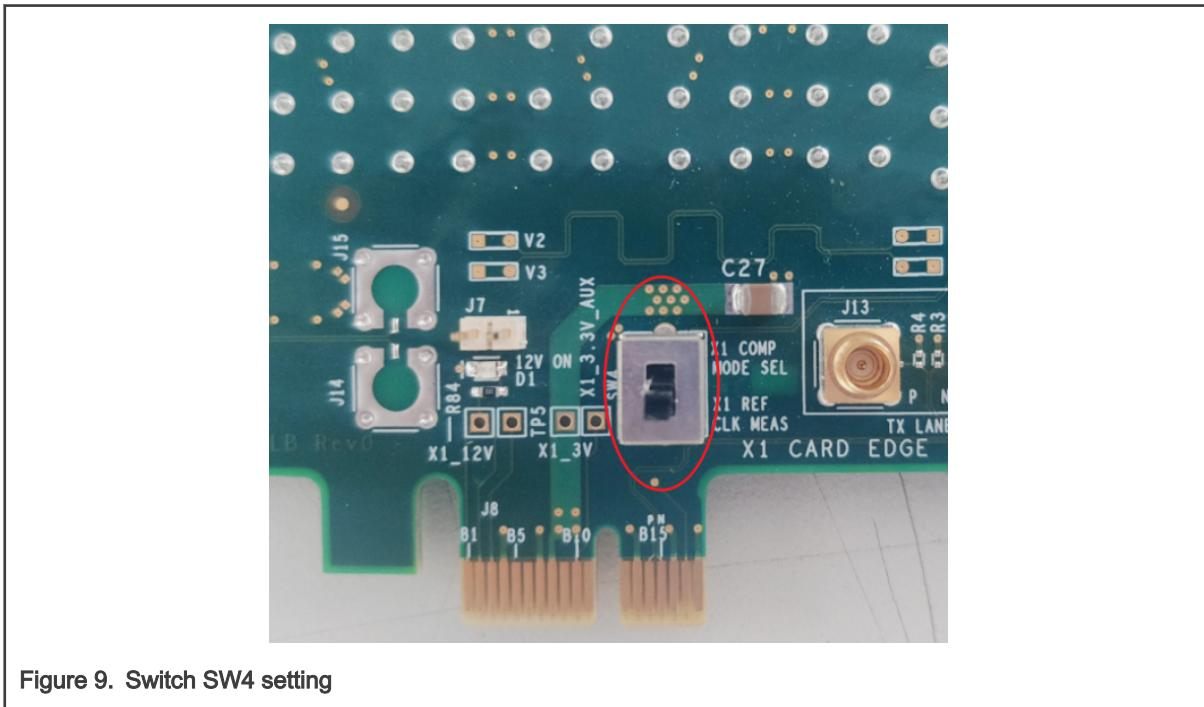

Figure 9. Switch SW4 setting
- b. Switch **SW4** to **x1 REF CLK MEAS**, as shown in Figure 9.